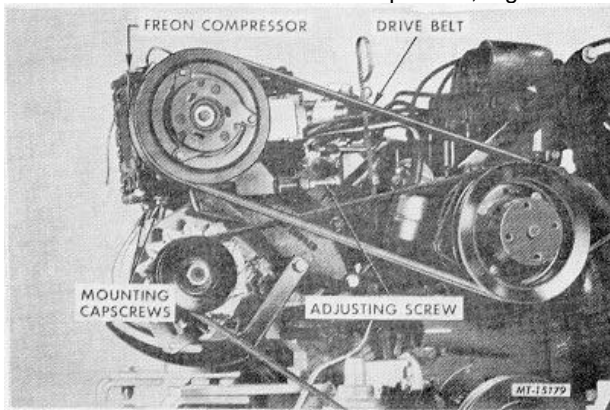

Fig. 11 Removing Freon Compressor Drive Belt and Compressor
- Loosen adjusting screw locknut and screw; then remove four freon compressor mounting capscrews and remove drive belt and compressor, Fig. 11.